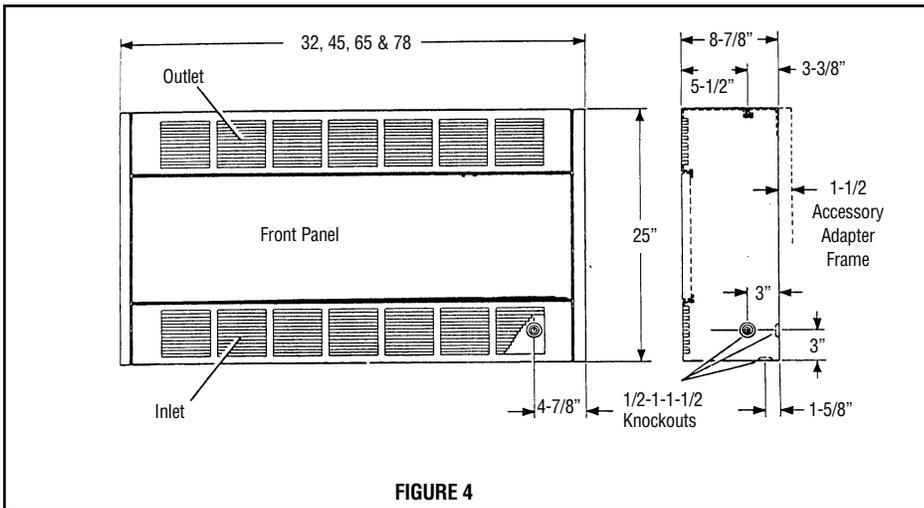

FIGURE 4
For either semi- or full-recessed applications, care must be taken to provide the proper size of opening in the wall or ceiling. See Figure 4 for dimensions. On the length and width dimensions, 1/4 inch must be allowed to insert trim frame.
1. For service entrance refer to Figure 4 for knockout sizes available and their locations.